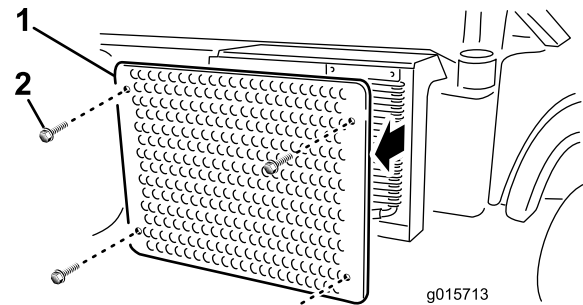

Figure 52
2. Remove the (5) bolts securing radiator screen/guard to the radiator. The guard is not shown in the figure. (Figure 52). Remove the screen/guard.